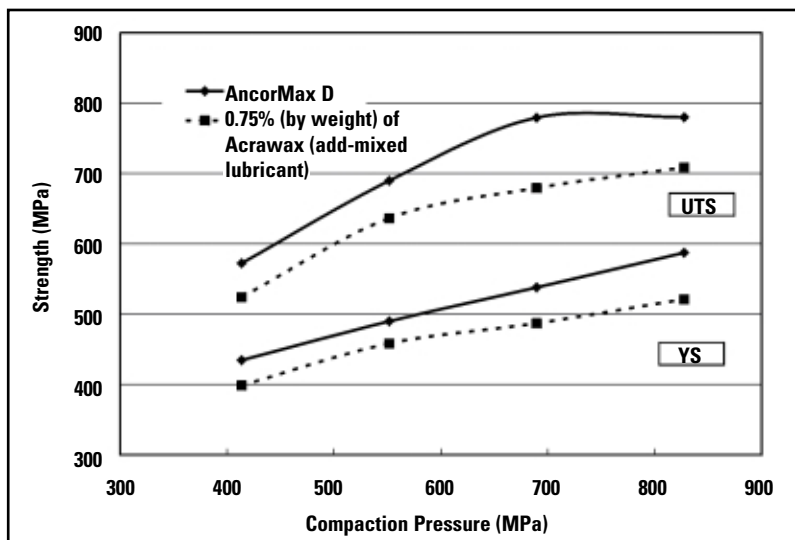

Figure 2—Strength of FLN2-4405 sintered at 1,120°C (2,050°F).
Increasing the density of a P/M component increases the tensile and fatigue strength of the finished part. Figures 2 and 3 demonstrate that the 0.10 g/cm³ increase in density achieved with the AncorMax D processing results in a 10% increase in ultimate tensile strength (UTS) and yield strength (YS) at equivalent compaction pressures. Additional increases in strength can be achieved by increasing the sintering temperature from 1,120°C to 1,260°C (2,050°F to 2,300°F) by comparing the data presented in Figures 2 and 3.